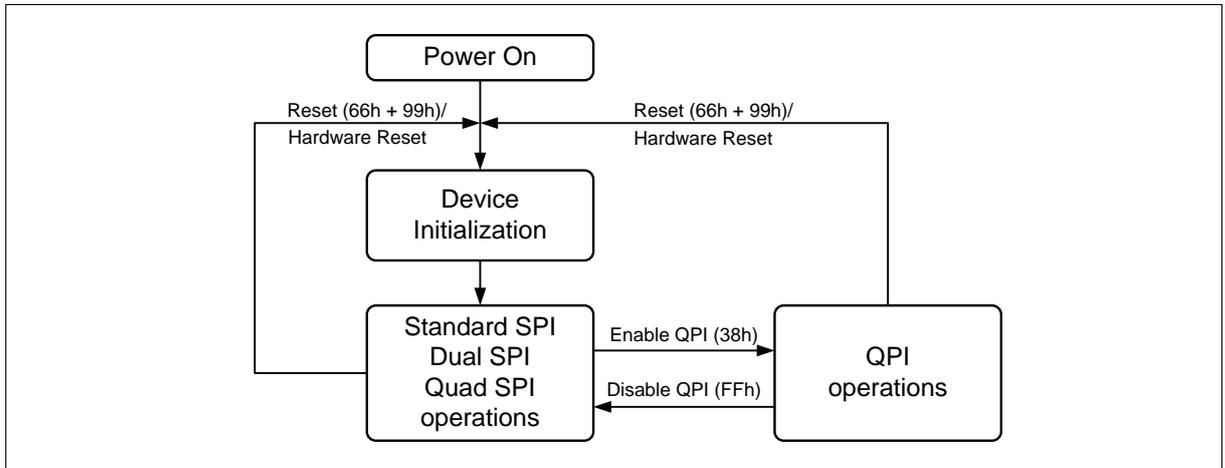

Figure 5 FM25LQ128I3 Serial Flash Memory Operation Diagram
The FM25LQ128I3 supports Quad Peripheral Interface (QPI) operations only when the device is switched from Standard/Dual/Quad SPI mode to QPI mode using the “Enable QPI (38h)” instruction. The typical SPI protocol requires that the byte-long instruction code being shifted into the device only via DI pin in eight serial clocks. The QPI mode utilizes all four DQ pins to input the instruction code, thus only two serial clocks are required. This can significantly reduce the SPI instruction overhead and improve system performance in an XIP environment. Standard/Dual/Quad SPI mode and QPI mode are exclusive. Only one mode can be active at any given time. “Enable QPI (38h)” and “Disable QPI (FFh)” instructions are used to switch between these two modes. Upon power-up or after a software reset using “Reset (66-99h)” instruction or hardware reset, the default state of the device is Standard/Dual/Quad SPI mode. To enable QPI mode, the non-volatile Quad Enable bit (QE) in Status Register-2 is required to be set. When using QPI instructions, the DI and DO pins become bidirectional DQ_0 and DQ_1 , and the WP# and HOLD# pins become DQ_2 and DQ_3 respectively. See Figure 5 for the device operation modes.